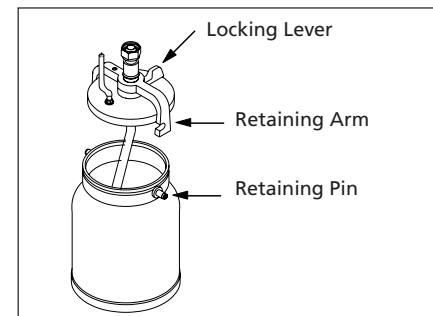

Figure 9 - Locking The Cup
5. Move the locking lever clockwise to the locked position. (See Figure 9).